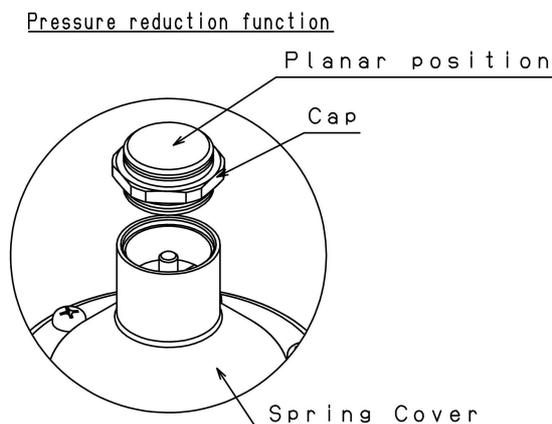

Fig.2.
- (3) On water pressure inspection, be sure to check the concave portion of the cap is screwed in upward direction, and conduct the water pressure inspection at 1.75 MPa or less.
- (4) Take the internal pressure, and be sure to return the cap to the original position (making planar position upward) after water pressure inspection.(Fig.2)